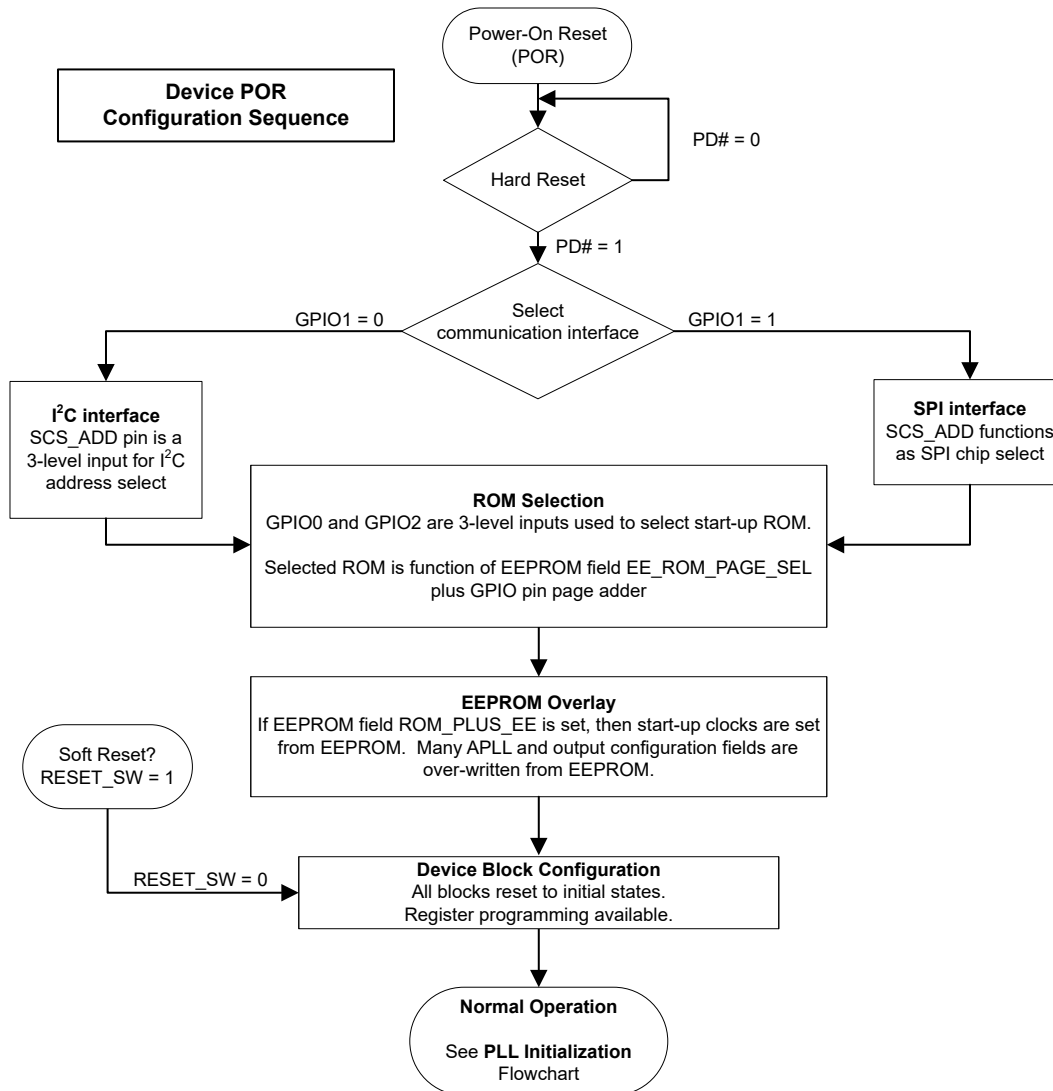
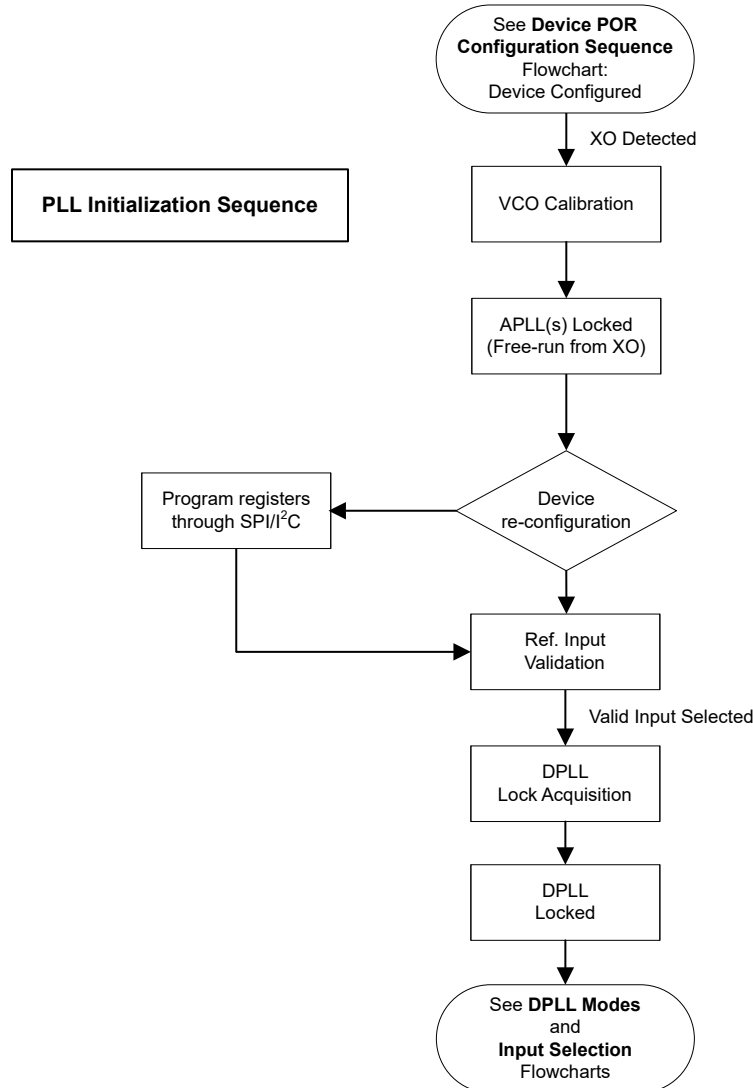

图 9-36. Device POR Configuration Sequence
图 9-38. PLL Initialization Sequence
**Figure 9-36** shows the device power-on reset configuration sequence.
Also see 图 9-16, 图 9-37, and 图 9-38.
Diagram assumes holdover is enabled. Also see 图 9-16, 图 9-36, and 图 9-38.
Also see 图 9-16, 图 9-36, and 图 9-37.